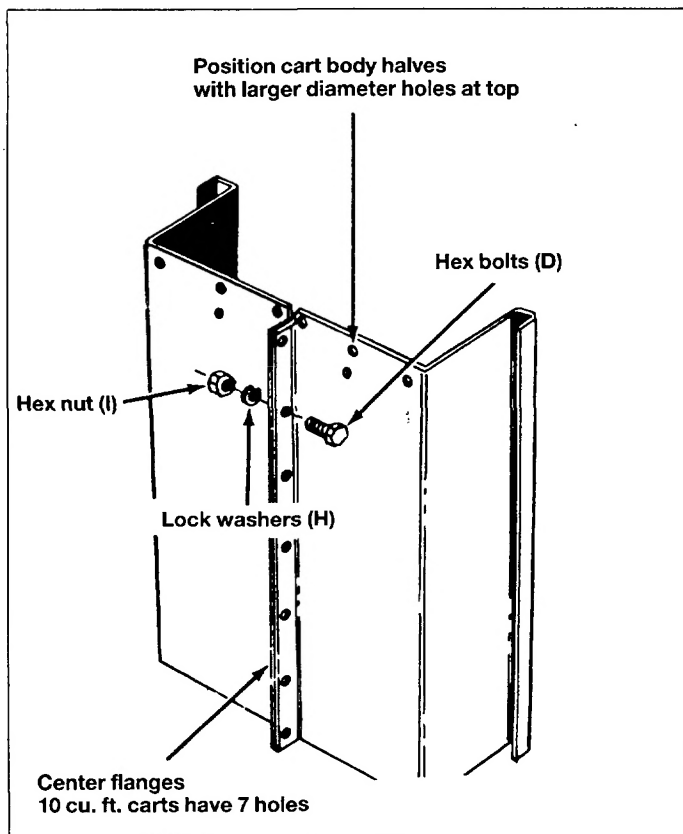

Fig. 3
3. Position cart body halves (P and R) upright as shown in figure 3. N.B. Large diameter holes to the top.
4. Start bolts (D), lock washers (H) and hex nuts (I) through flanges, only make finger tight until all 7 bolts are in place. See figure 3 and note below.